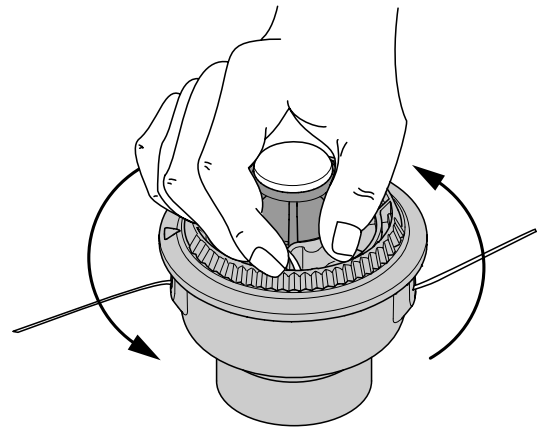

Fig. 16
8. Hold the outer spool. Wind the inner reel counterclockwise until approximately four (4) inches (102 mm) of line remain (Fig. 16).